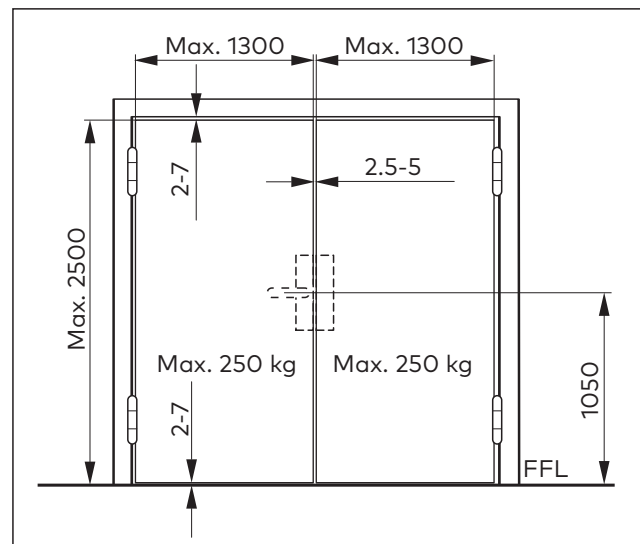

Fig. 18 Requirements for the door
- The door corresponds to the specifications in Fig. 18 and is deformed by a maximum of 5 mm.